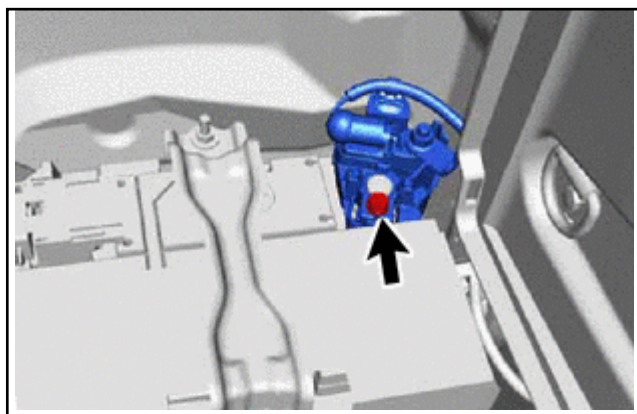

Figure 3-4
d. Loosen the nut, and disconnect the cable from the negative (-) auxiliary battery terminal. See Figure 3-4.